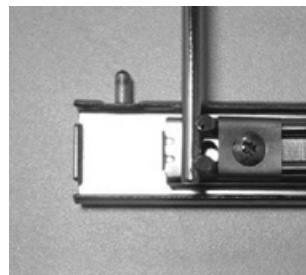

Fig. 7
3. Unscrew the rail fixing screws (Fig. 7), move the rails in the required position and fix them back using the fixing screws.